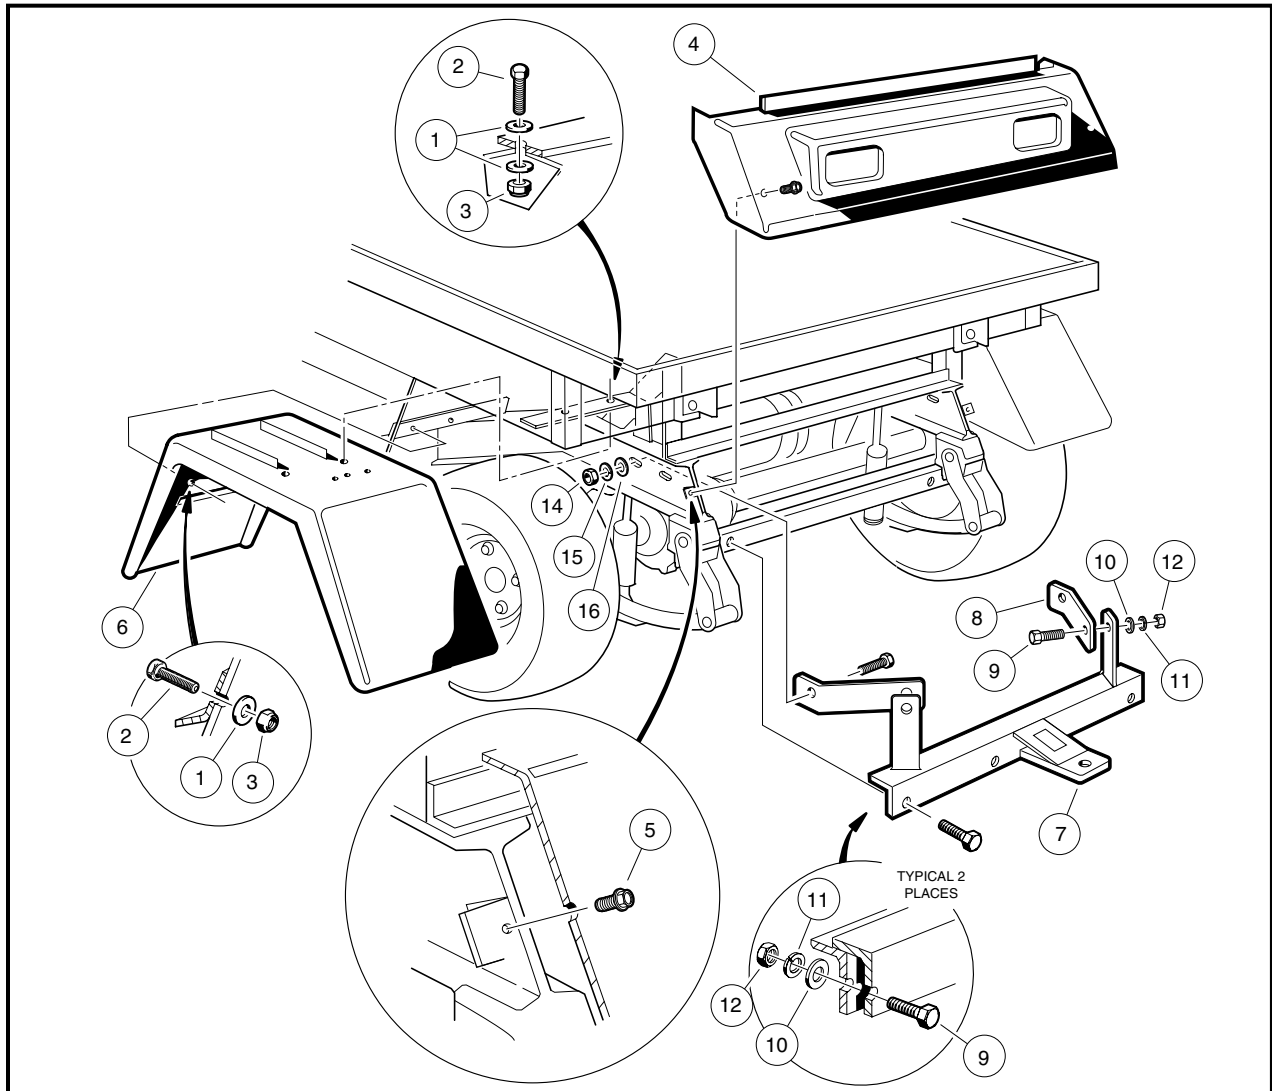
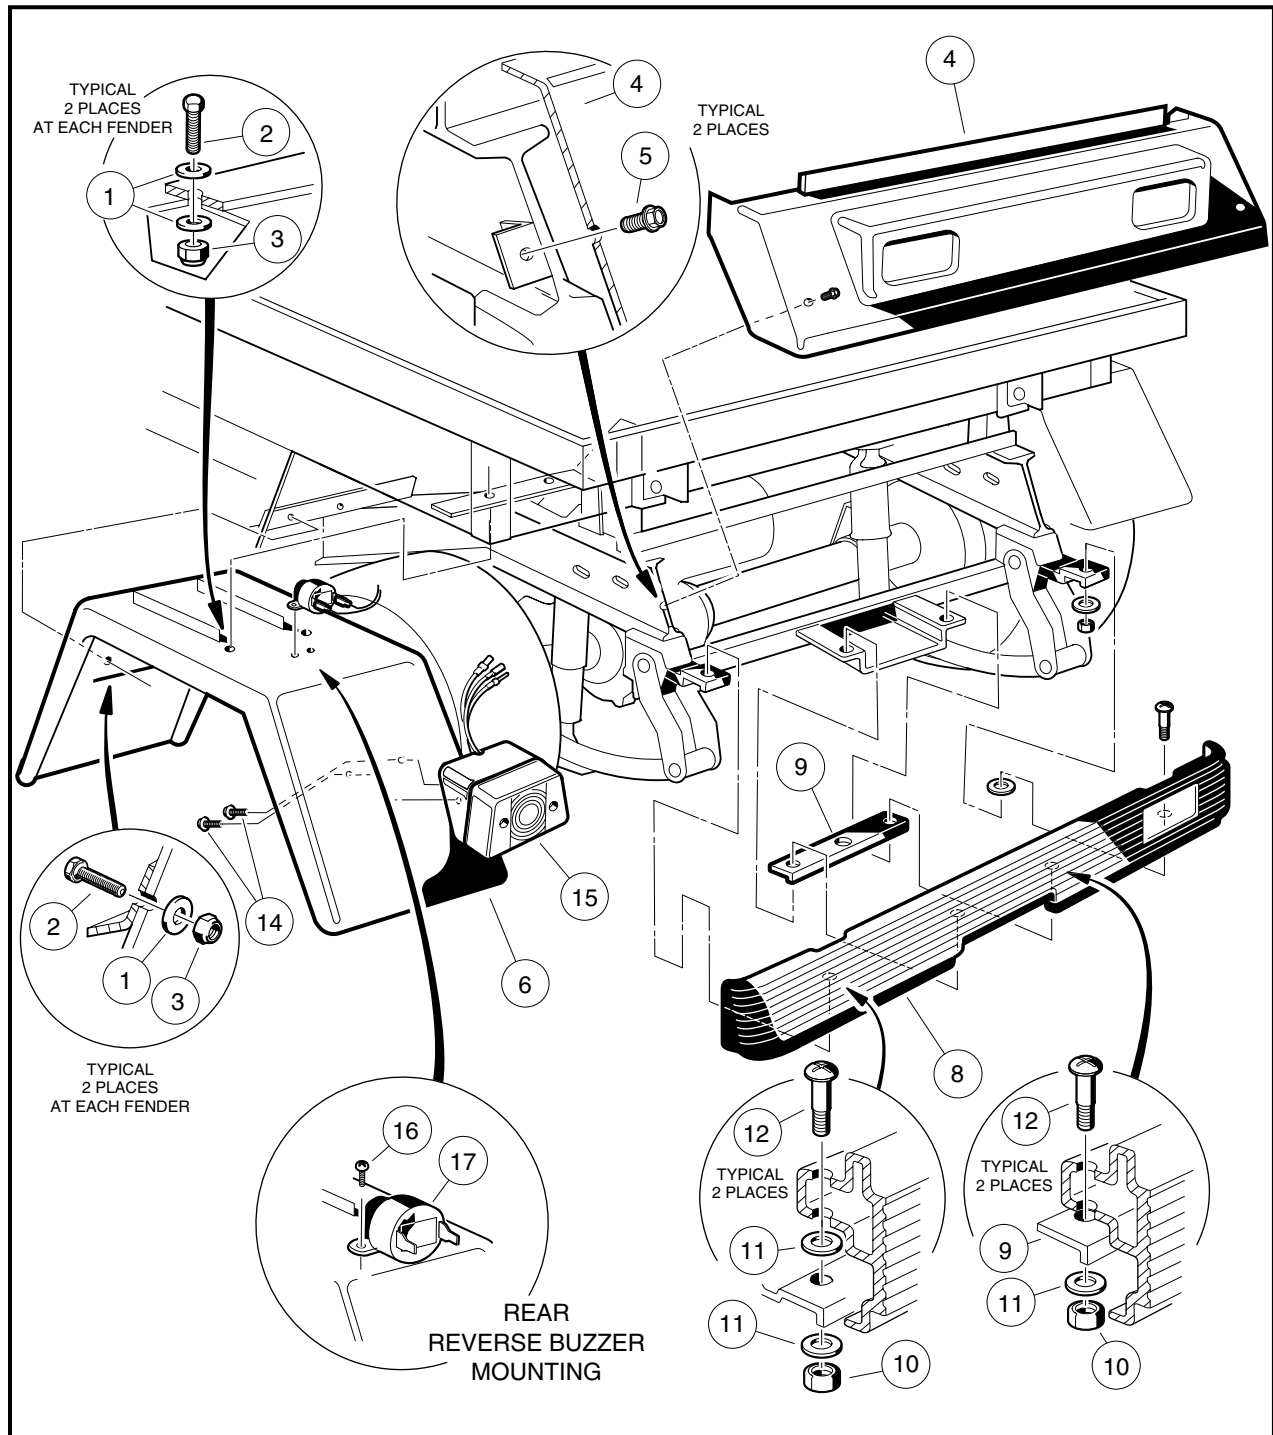

Figure 4-5 Rear Fender, Trailer Hitch and Tail Skirt - Turf 1, 2, Carryall 1, 2 and 2 Plus
Figure 4-6 Rear Fender and Tail Skirt - Turf 6 and Carryall 6
- 1.1. Remove the two screws (14) that secure taillight (15) to the rear fender **(Figure 4-6, Page 4-12)**.
2. Remove two nylon locknuts (3) and flat washers (1) from front of fender. Remove two 1/4 x 1 bolts (2) from front of fender (6) **(Figure 4-5, Page 4-11 or Figure 4-6, Page 4-12)**.
3. Remove two nylon locknuts (3) and flat washers (1) from top of fender (6). Remove two 1/4 x 1 bolts (2) and flat washers (1) from the top of fender (6) **(Figure 4-5, Page 4-11 or Figure 4-6, Page 4-12)**.
- 3.1. Remove pan head screws (16) connecting reverse buzzer (17) to rear fender (6) and disconnect the two wires from the reverse buzzer (**Figure 4-6, Page 4-12**).
4. Remove fender (6) from vehicle (**Figure 4-5, Page 4-11** or **Figure 4-6, Page 4-12**).
2. Where the hitch (7) is mounted to frame, remove two nuts (12), lock washers (11) washers (10) and bolts (9) (**Figure 4-5, Page 4-11**).
- Reverse removal procedures to install hitch (14) (Figure 4-5, Page 4-11). Tighten hardware to 15 ft-lb (20.3 N-m).
1. Remove two thread-forming screws (5) from tailskirt (4) and lift tailskirt from vehicle frame (**Figure 4-5, Page 4-11 or Figure 4-6, Page 4-12**).
1. Insert upper edge of tailskirt (4) under, and in front of, back edge of rear body (**Figure 4-5, Page 4-11 or Figure 4-6, Page 4-12**).
2. Align holes in tailskirt (4) with holes in vehicle frame. Position tailskirt flush against frame (**Figure 4-5, Page 4-11 and Figure 4-6, Page 4-12**).
3. Install two thread-forming screws (5) in tailskirt and tighten to 55 in-lb (6.215 N·m) (**Figure 4-5, Page 4-11 or Figure 4-6, Page 4-12**).
1. Remove four locknuts (10), six flat washers (11), four phillips bolts (12), and mounting plate (9) from rear bumper (8) (**Figure 4-6, Page 4-12**).
1. Install the rear bumper in the reverse order of removal. Tighten nuts to 65 in-lb (7.3 N·m) (**Figure 4-6, Page 4-12**).